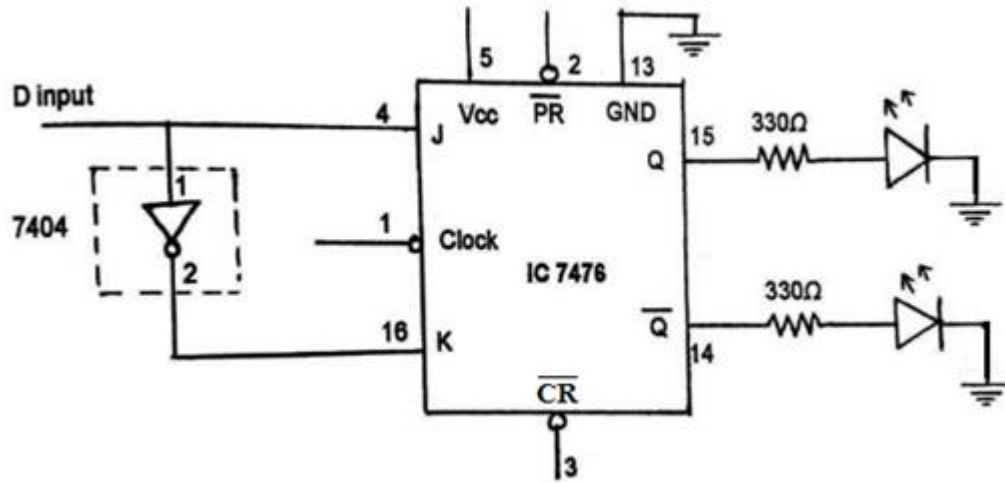

Figure 10.5 Circuit diagram of D flip-flop using IC 7476
6. Make the connections to convert JK flip flop to D flip flop as per the circuit diagram given in Figure 10.5.